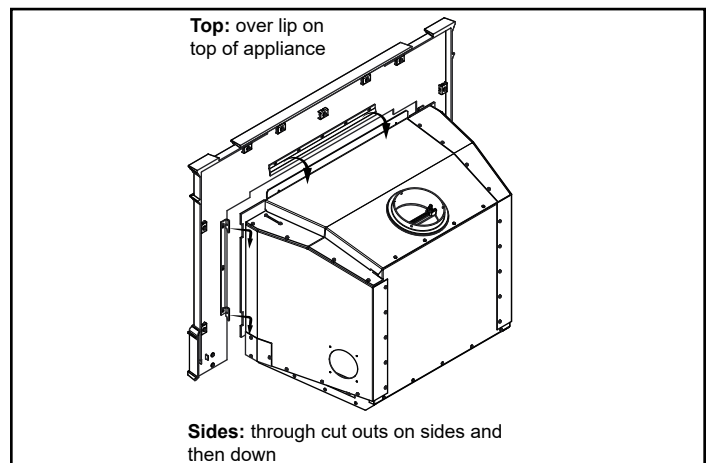

Figure 5.19
10. Slide surround and trim over the top of the insert into place matching the mounting tabs on the metal sides with the slots on the insert (**Figure 5.19**).
11. Align the 2 screws in the top metal surround piece to the 2 alignment holes on the appliance top. Secure in place (**Figure 5.19**).